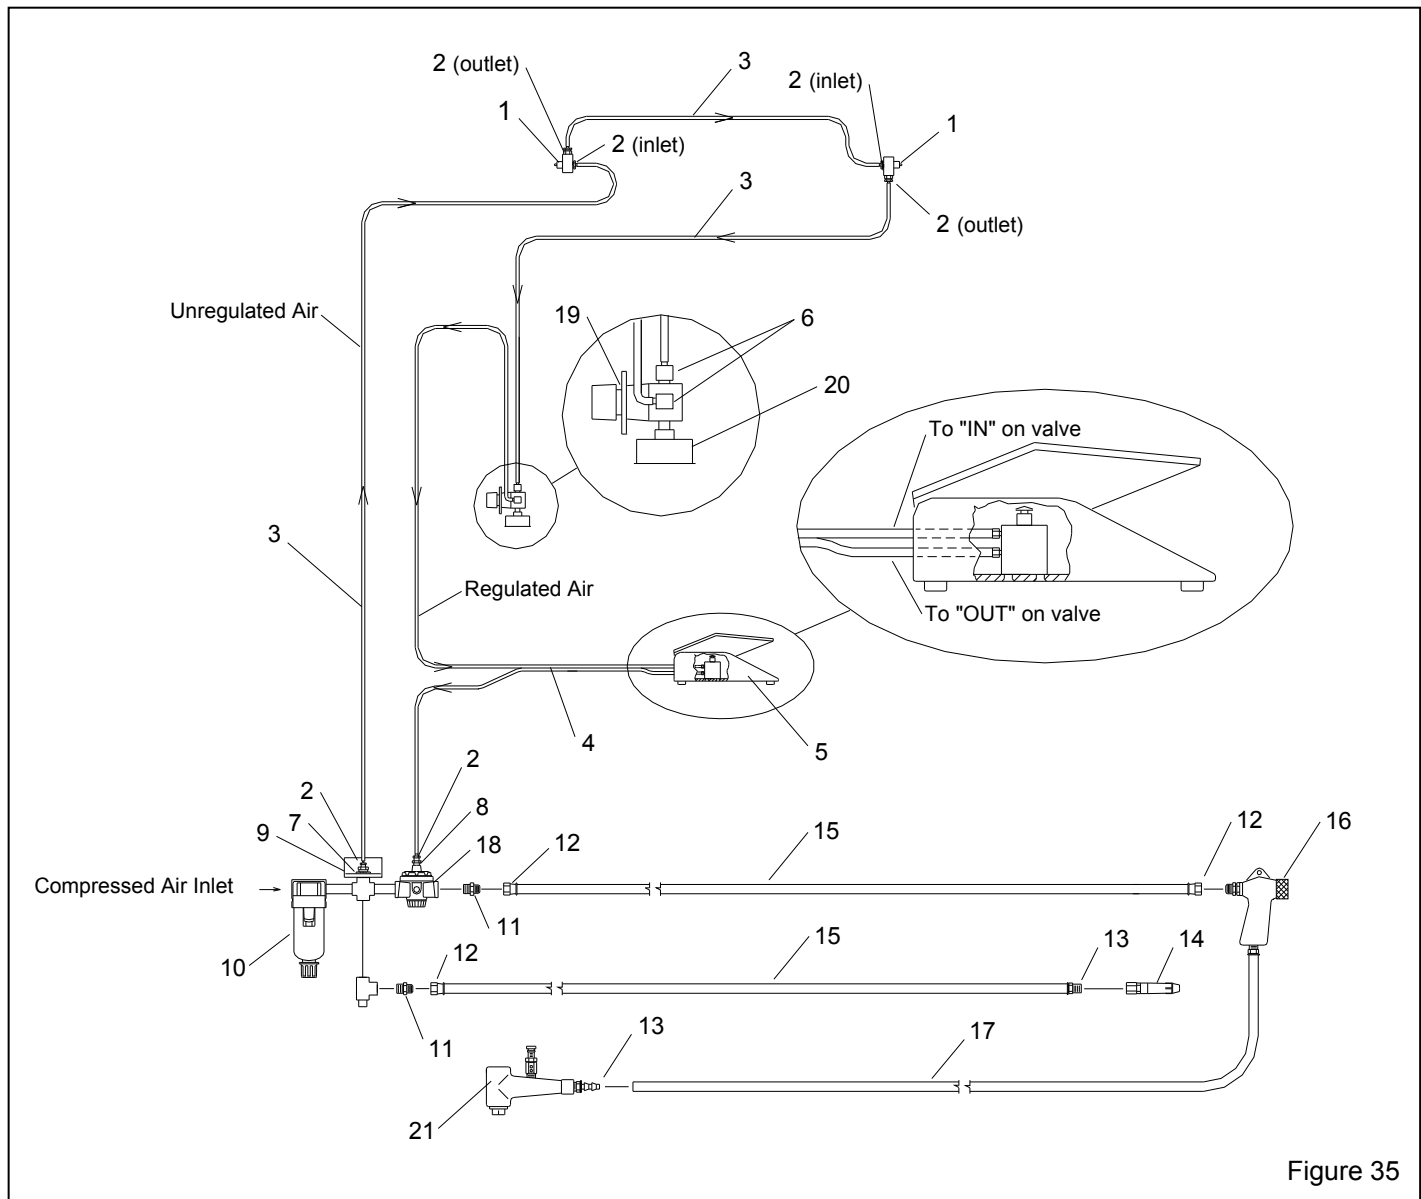

Figure 35
9.9 Cabinet Plumbing Assembly, Figure 35